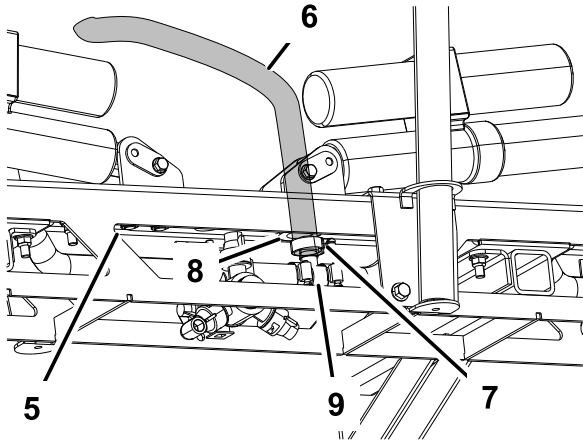

Figure 31
- Use liquid soap to coat the hose barb of the tee connections on both extension booms (Figure 31). Install the boom extension hose over the barb and secure it with a clamp.
- Use liquid soap to coat the hose barb of the center boom tee connection Figure 31.
- Route the center boom hose through the grommetted opening in the center boom assembly. Connect the center boom supply hose to the soaped barb and secure it with a hose clamp Figure 31.